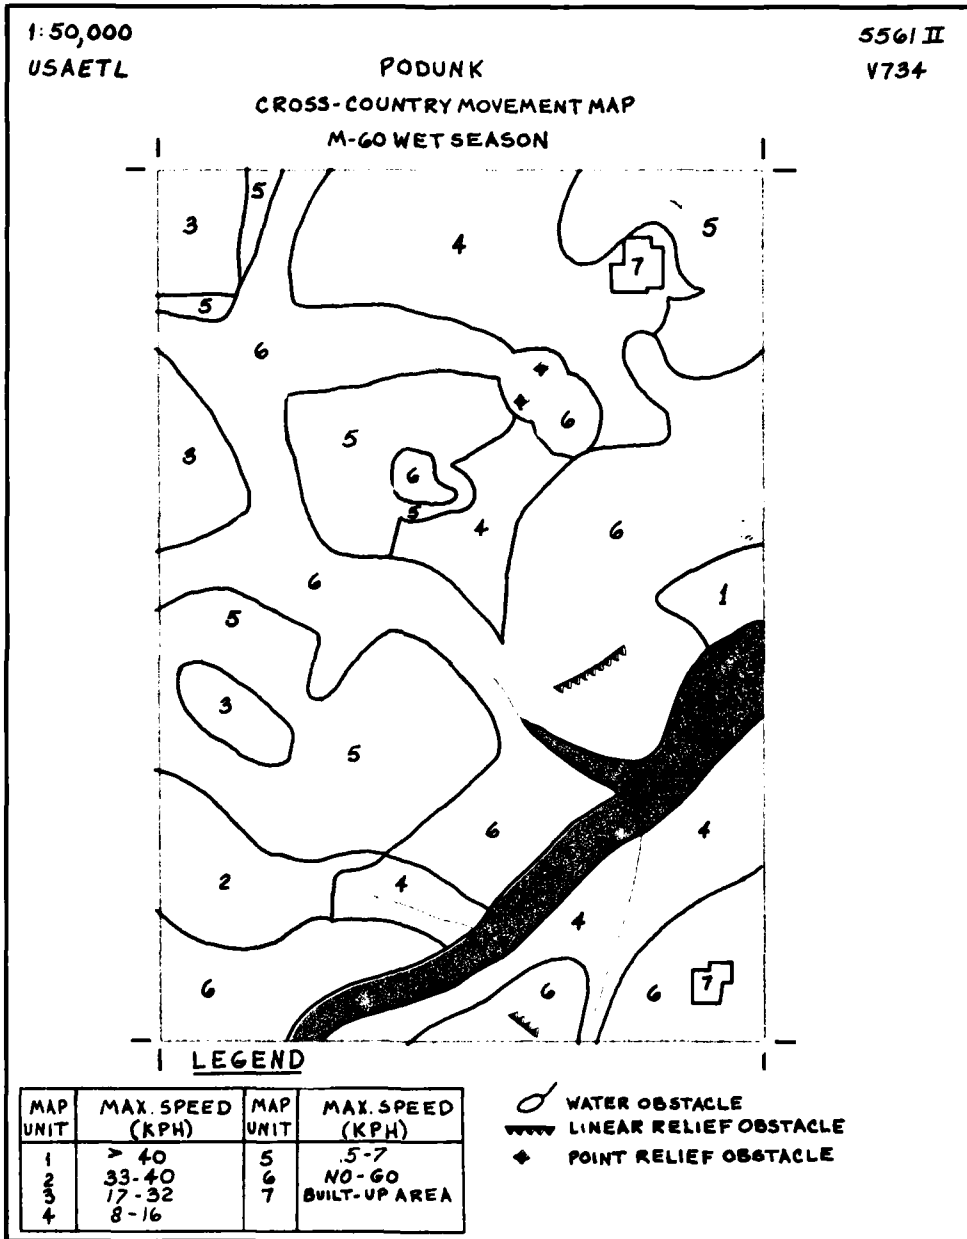

Figure 19. Sample Completed CCM Manuscript
i. Place the legend in the appropriate place on the CCM manuscript as indicated in figure 19.
Step 10. Place the legend in the appropriate place on the CCM manuscript as indicated in figure 19.